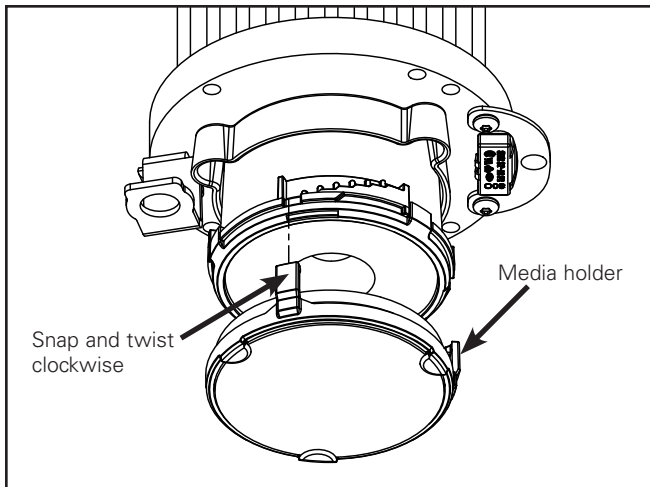

Figure 9
2. Also available, is a single/double media holder. To install, place the media onto the media holder. Engage snaps at bottom of snap staircase. Twist clockwise until tight (Figure 9).